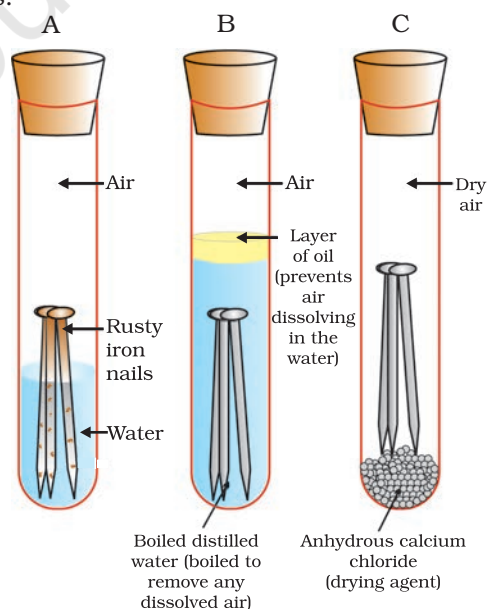

Figure 3.13
- Put some anhydrous calcium chloride in test tube C and cork it. Anhydrous calcium chloride will absorb the moisture, if any, from the air. Leave these test tubes for a few days and then observe (Fig. 3.13).